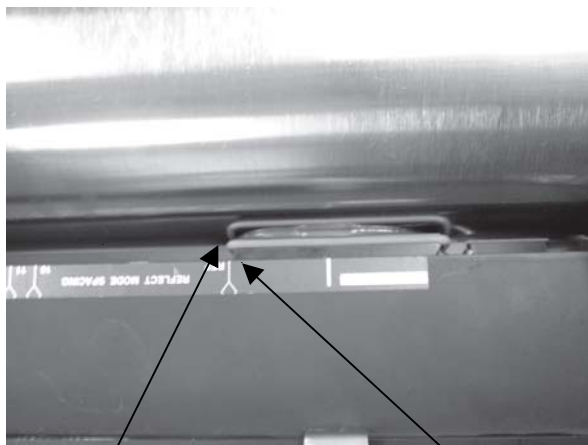
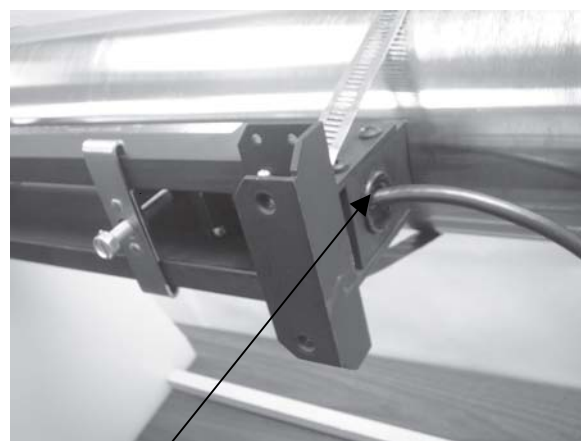

Figure 4
Figure 5
- Locate the Reference Index Marker on the Mounting Track Assembly (Figure 4). Determine the upstream direction and feed the appropriate transducer cable from the flowmeter through the end plate of the Mounting Track Assembly. Press cable bushing into hole (Figure 5).